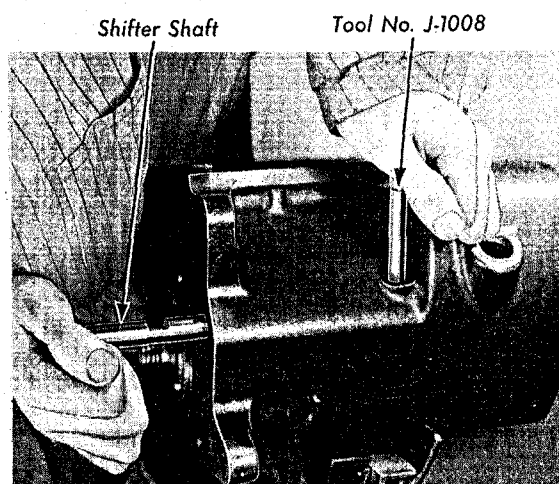

Fig. 28 Installing Low and Reverse Shifter Shaft
14. Place low and reverse shifter shaft locking ball on top of spring, push down with special tool J-1008, and install low and reverse shifter shaft, as shown in Plate 57, Fig. 28.